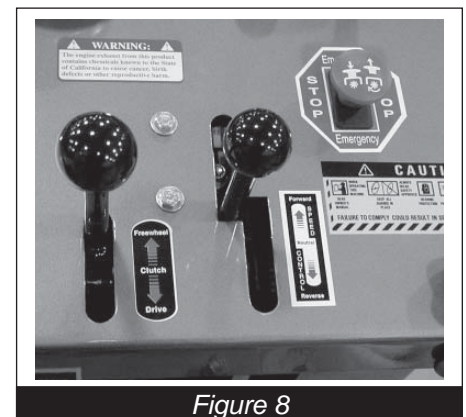

Figure 8
- Move CLUTCH lever to DRIVE position and adjust SPEED CONTROL (*Figure 8*).
- Push Clutch Lever forward, away from operator to the FREE WHEEL position; this will stop all forward motion. (Figure 8)